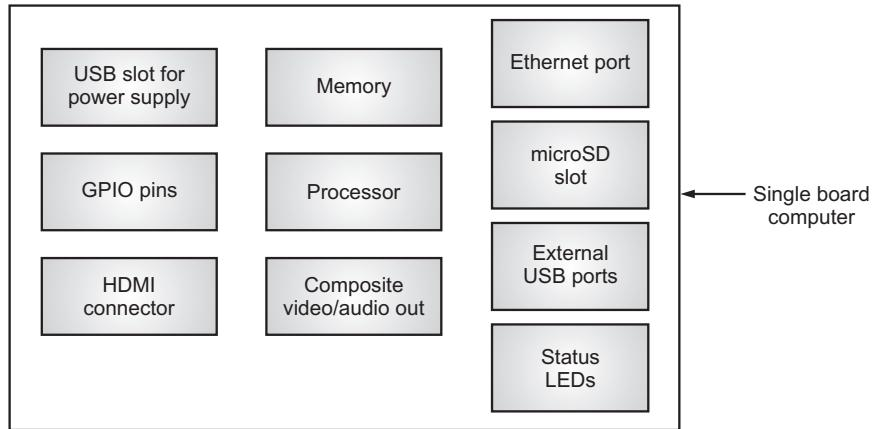

Fig. 1.3: Block diagram of SBC
Block diagram of SBC is shown in Fig. 1.3 The main blocks of SBC are Processor, memory, General Purpose Input/Output (GPIO) pins, Ethernet port, External USB ports, microSD slot,
- A Single Board Computer (SBC) is a complete computer built on a single circuit board as shown in Fig. 1.3.
- Basic blocks of SBC are shown in Fig. 1.3.